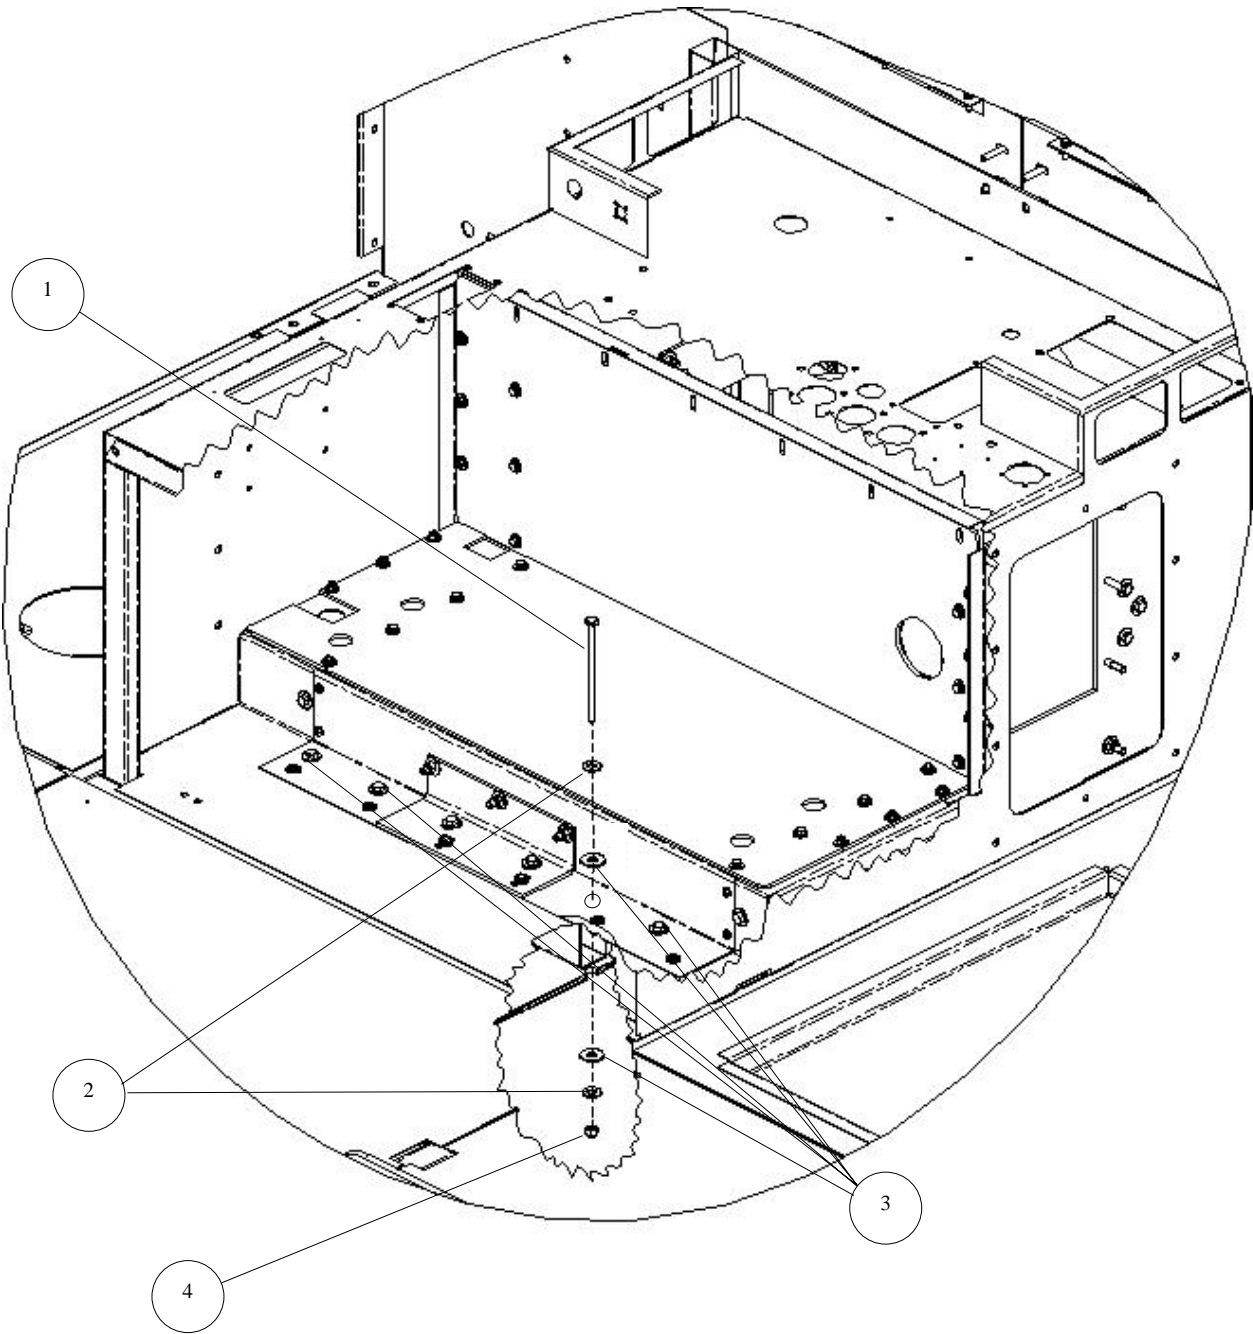

Figure 3-75. Doghouse/Center Mine Blast Panel Bolts Installation.
7. Install doghouse / center mine blast panel bolts as follows (see Figure 3-75):
- a. Install six bolts, (1), 12 flat washers (2), ten 7/16" flat washers (4), and six locknuts (3) through previously drilled holes to secure the doghouse panel to the center mine blast panel. Torque bolts to 23 lb-ft.